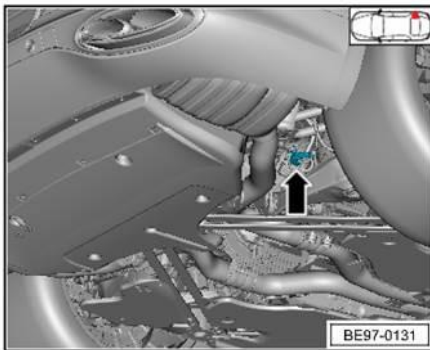

Figure 1
- Referring to Figure 1 - Perform a wiring integrity check between sensor (G77) and J775